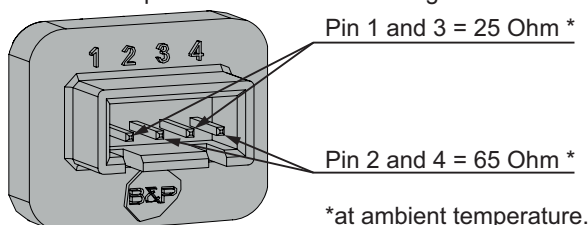

Figure 9.18
- 3 Measure the electrical resistance between the connector pins of the on-off operators as illustrated in Figure 9.18.